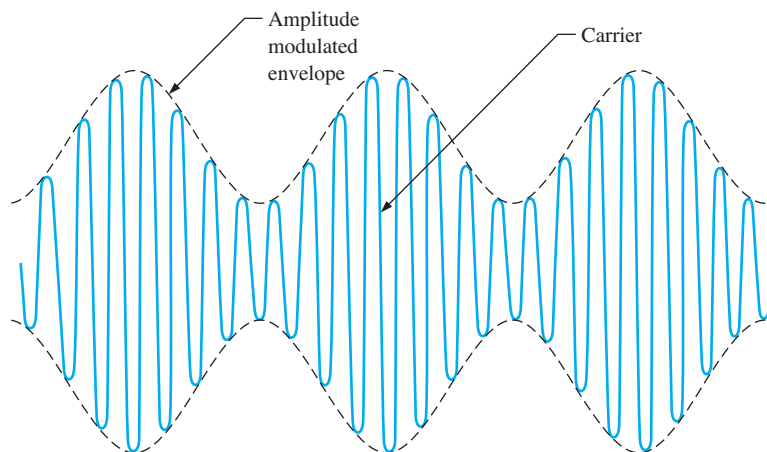

FIGURE 13–1 An example of an amplitude modulated signal. In this case, the higher-frequency carrier is modulated by a lower-frequency sinusoidal signal.
Amplitude modulation (AM) is a method for sending audible information, such as voice and music, by electromagnetic waves that are broadcast through the atmosphere. In AM, the amplitude of a signal with a specific frequency (f_c), called the *carrier*, is varied according to a modulating signal, which can be an audio signal (such as voice or music), as shown in Figure 13–1. The carrier frequency permits the receiver to be tuned to a specific known frequency. The resulting AM waveform contains the carrier frequency, an upper-side frequency equal to the carrier frequency plus the modulation frequency ($f_c + f_m$), and a lower-side frequency equal to the carrier frequency minus the modulation frequency ($f_c - f_m$). Harmonics of these frequencies are also present. For example, if a 1 MHz carrier is amplitude modulated with a 5 kHz audio signal, the frequency components in the AM waveform are 1 MHz (carrier), $1\text{ MHz} + 5\text{ kHz} = 1,005,000\text{ Hz}$ (upper side), and $1\text{ MHz} - 5\text{ kHz} = 995,000\text{ Hz}$ (lower side).
A block diagram of a superheterodyne AM receiver is shown in Figure 13–2. The receiver shown consists of an antenna, an RF (radio frequency) amplifier, a mixer, a local oscillator